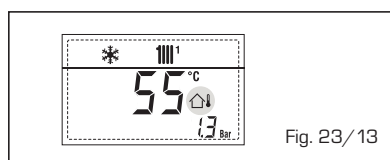

Fig. 23/13
– **INTERVENTO TERMOSTATO SICUREZZA PRIMA ZONA MISCELATA “ALL 20” (fig. 23/14)**